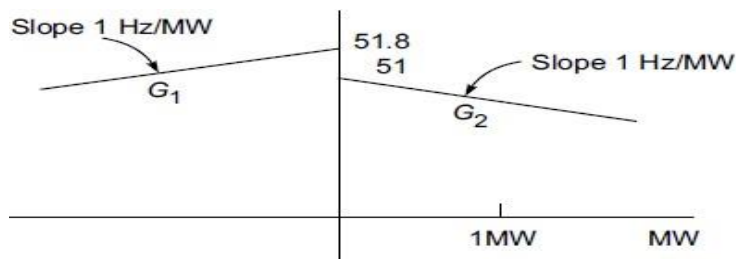

Fig.1.1
4. Figure 1.1 shows two generators supplying in parallel a load of 2.8 MW at 0.8 pf lagging: (a) At what frequency is the system operating and what is the load supplied by each Generator?